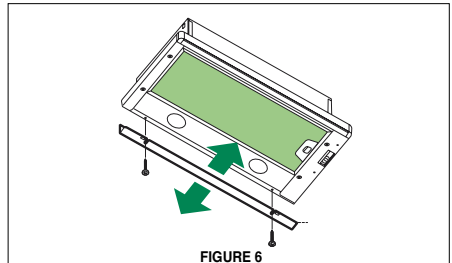

FIGURE 6
6. A metal trim strip (**FIGURE 6**) is included to cover the underside of any remaining exposed cabinet. Attach the strip to the bottom of the back of the rangehood with the screws provided.